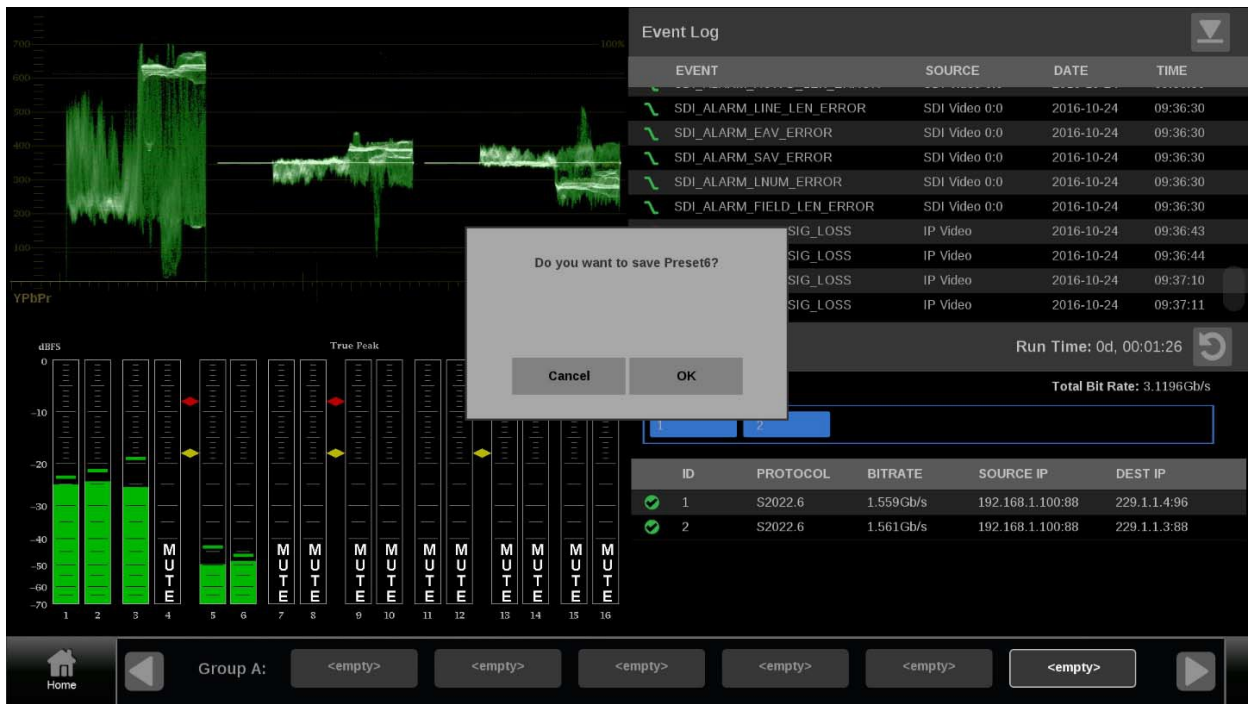

Figure 66: Assign a preset
- c. When you have found the preset group to change, select and hold the preset button to assign the current instrument configuration. The selected preset button is highlighted and a confirmation box appears. In the example, the Group B preset B6 is being saved. (See Figure 66.)